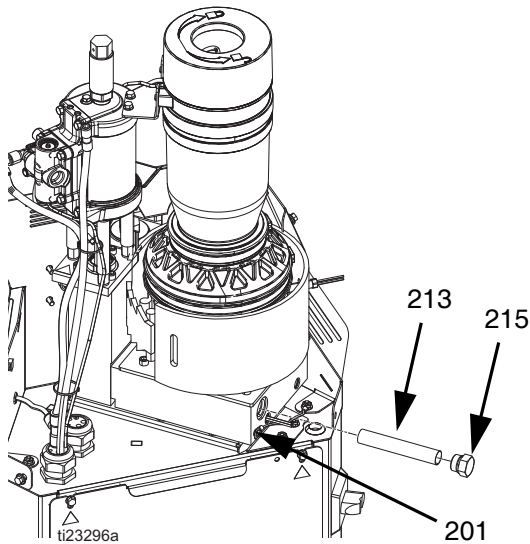

FIG. 24
NOTE: To ensure the adhesive is a gel, not a liquid, do not remove inlet filter cap (215) when the temperature is above the desired temperature. If the temperature is too low, the adhesive viscosity may be too high to remove the inlet filter (213). See FIG. 24, page 42.